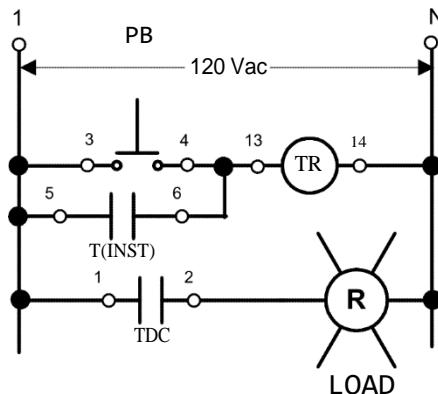

FIGURE 7.13
Step 3: a) Add a holding contact to your circuit as shown in Figure 7.13.